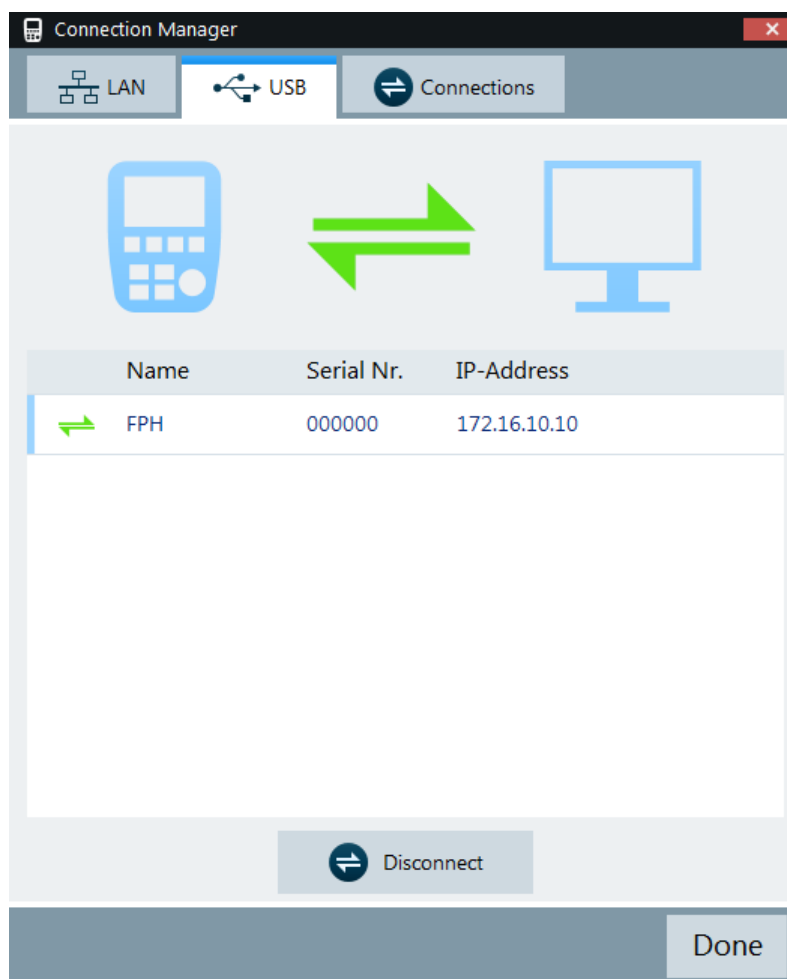

Figure 3-14: USB connection
3. There is only one USB instance in the connection manager list. See Figure 3-14. Depending on the connection status icon,   you can connect or disconnect an instrument from the connection manager list